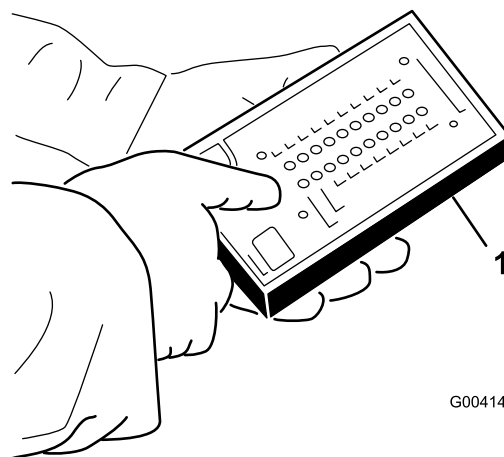

Figure 22
4. Connect the Diagnostic ACE display tool connector to the diagnostic connector (Figure 22).